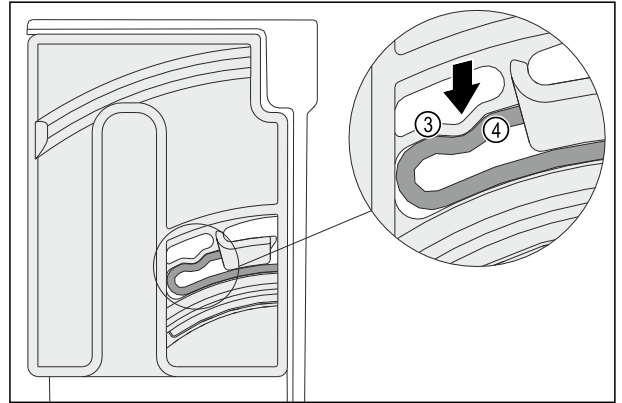

Fig. 115
- ▶ The elastic element Fig. 115 (3) of the swivel unit clicks audibly in the round mold of the ridge Fig. 115 (4).